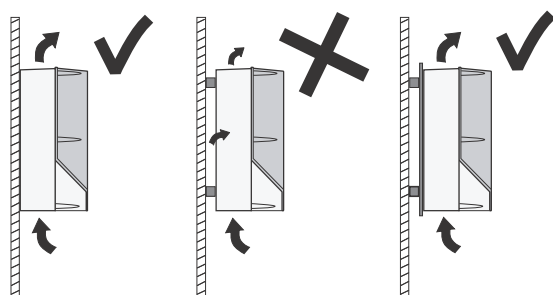

Fig. 4 CUE hung directly on the wall or fitted with a back plate
- Hang the CUE cabinet directly on the wall, or fit it with a back plate. See fig. 4.